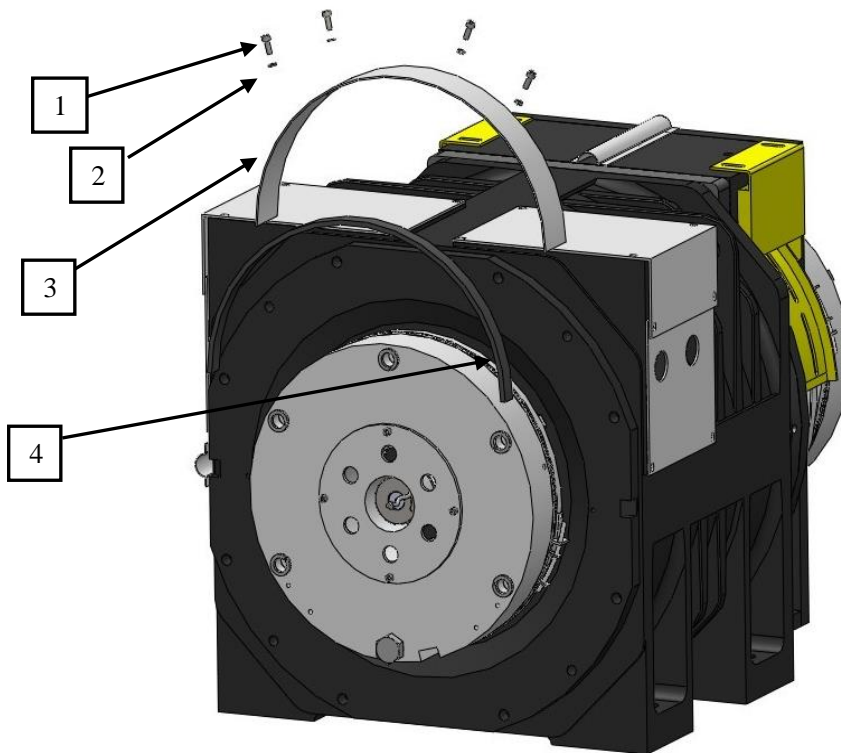

Figure 41: Normal Brake Dust Cover removal
3. Loosen the 4 screws M6x16 and lock washer 6 (4 pieces) with hex wrench (5mm), and then remove the cover, dustproof ring and rubber ring. See Figure 41 and Table 5.